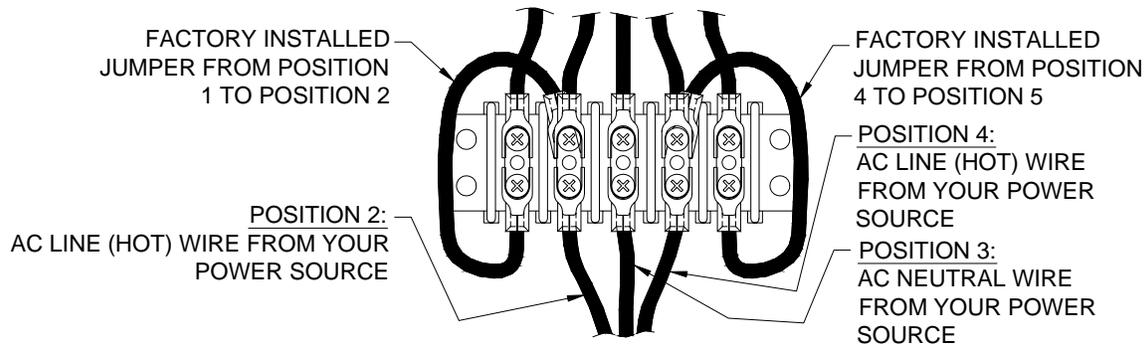

Figure 6 240 VAC Connections
3. If you are going to connect the scoreboard to a 240 VAC supply, connect one AC line wire to position 2, AC neutral wire to position 3, and the other AC line wire to position 4 of terminal strip T4 on the junction chassis according to figure 6.